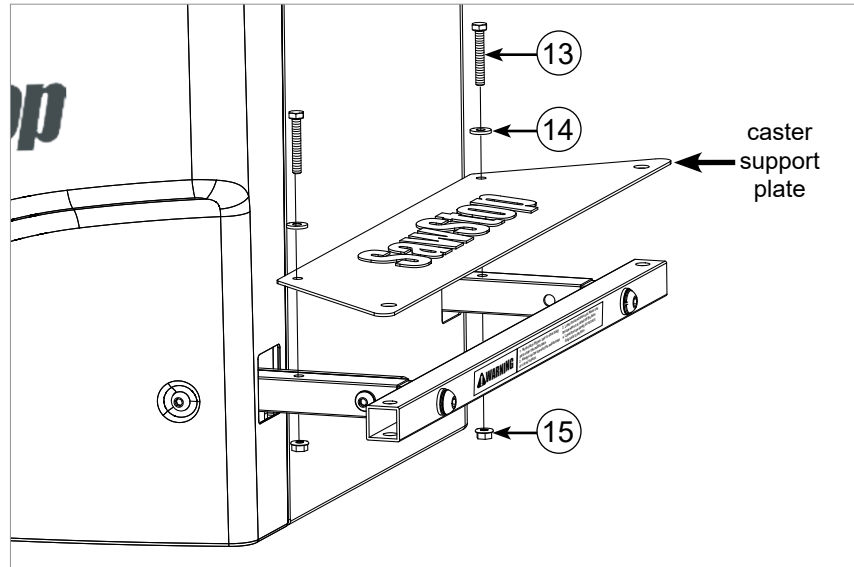

Fig. 39
21. Position the caster support plate on the top of the caster support arms so that the mounting holes align as shown in Fig. 39. Make sure that the SawStop logo faces up. Secure the support plate to the caster support arms with two M6 x 40 hex bolts, two M6 x 16 washers, and two M6 flange lock nuts. Fully tighten the two bolts using a 10 mm wrench and a 10 mm socket.